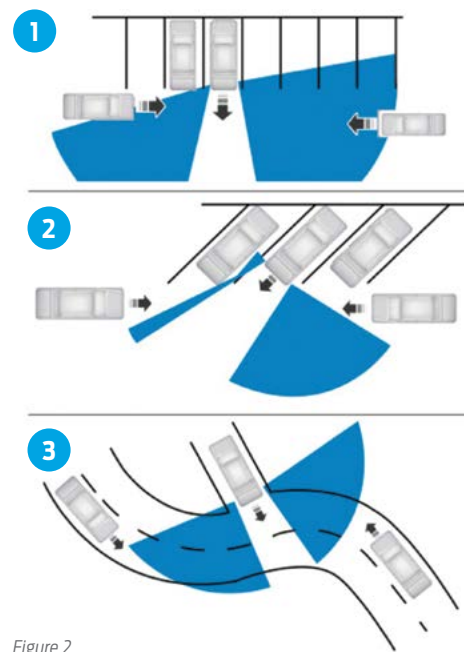

Figure 2
When the vehicle is in REVERSE (R) and backing out of a front-in parking space or backing towards the road, the Cross-Traffic Alert (CTA) system alerts the driver of vehicles that are approaching from the side. The CTA system can detect a vehicle approaching from 45 feet away at speeds up to 37mph, and uses the exterior mirror BLIS® LEDs, a warning chime from the audio speakers and a message in the instrument panel cluster (IPC) message center to notify the driver. (Figure 2)